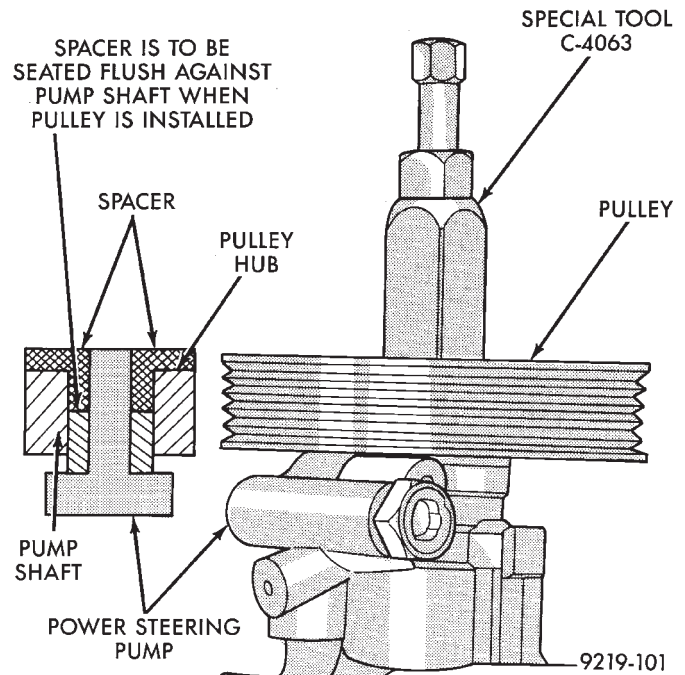

Fig. 7 Power Steering Pump Pulley Installed
(5) Continue to push pulley onto shaft of power steering pump until Pulley Installer, Special Tool C-4063 will no longer turn. This will ensure the spacer provided is fully seated against the front of the power steering pump shaft (Fig. 7).
(6) Remove the Pulley Installer, Special Tool C-4063 from the shaft of the power steering pump. Remove the supplied spacer from the hub of the power steering pump pulley and discard.